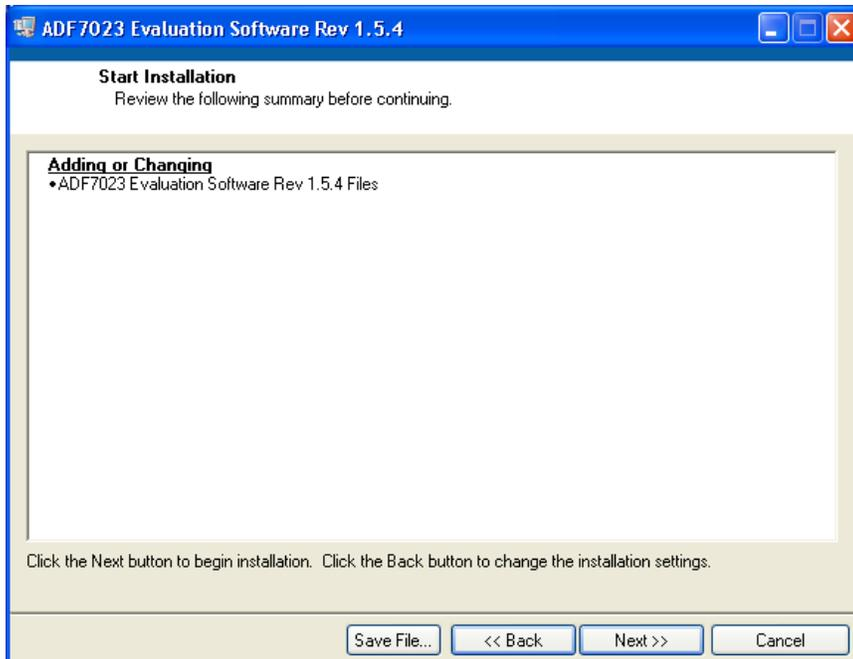

Figure 6
7. Click ***“Next”*** (Figure 6):